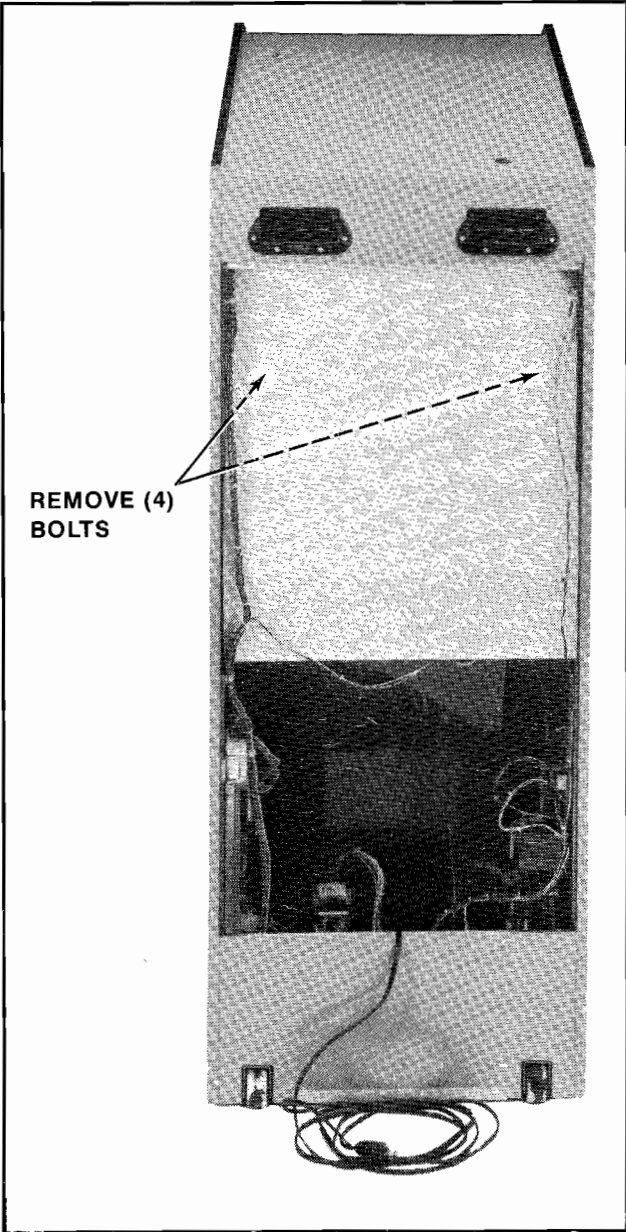

Figure 4-8 Removing the Monitor — Upright
1. UPRIGHT MODEL: See Figure 4-8.
- The monitor mounting bars slide on top of and against two metal guides mounted to the cabinet's right and left sides. The monitor is removed by sliding it out the back of the cabinet. See Figure 4-8.